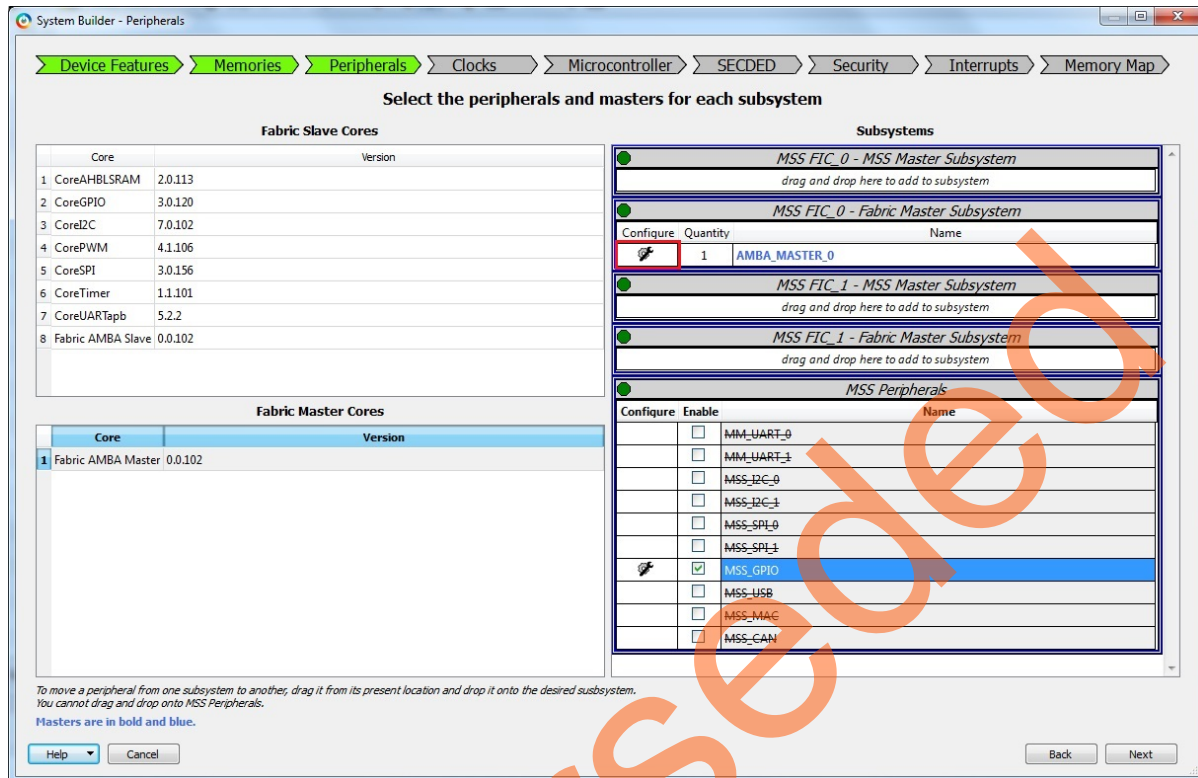
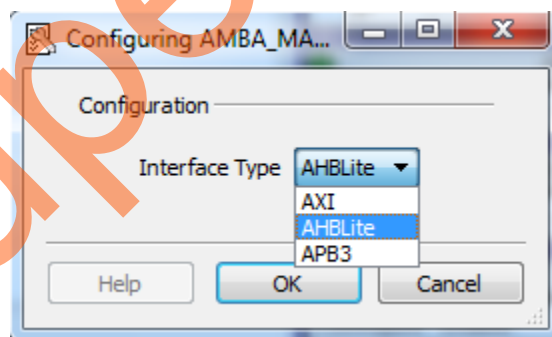

Figure 9 • System Builder Configurator – Peripherals Page
Figure 10 • Configuring AMBA Master
- Disable the MSS Peripherals except MSS_GPIO. The **System Builder – Peripherals** page is displayed as shown in Figure 9 on page 11. Configure **MSS_FIC_0 – Fabric Master Subsystem** for AHB-Lite by clicking on the AMBA_MASTER_0 configurator button highlighted in Figure 9 on page 11. This displays a drop-down list as shown in Figure 10 on page 11.
12. Select **AHBLite** from the drop-down list as shown in Figure 10.